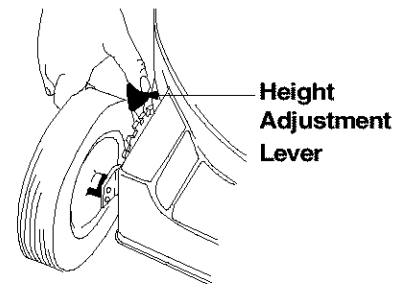

Figure 19
- Simply depress the lever towards the wheel and move the lever assembly to desired position. See Figure 19 .